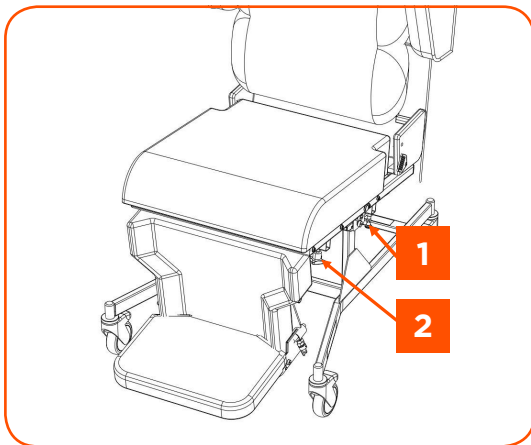
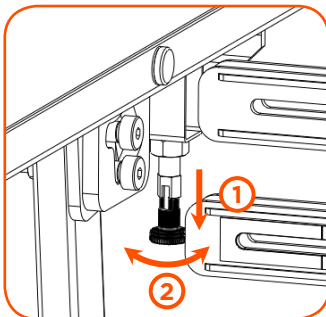

FIGURE 8
FIGURE 9
12. To fit the sidepieces, pull out the plunger located under the seat on one side of the chair (Fig 8, Item 1) and rotate it through 90 degrees to lock it open. Fig 9 shows the plunger locked open.
13. Undo the hand screw (Fig 8, Item 2).
3. On one side of the chair, underneath the base of the sidepiece, locate the locking plunger (Fig 8, Item 1).
4. Pull the plunger out and rotate 90 degrees to lock the plunger open (Fig 9).
5. Loosen the hand screw (Fig 8, Item 2).